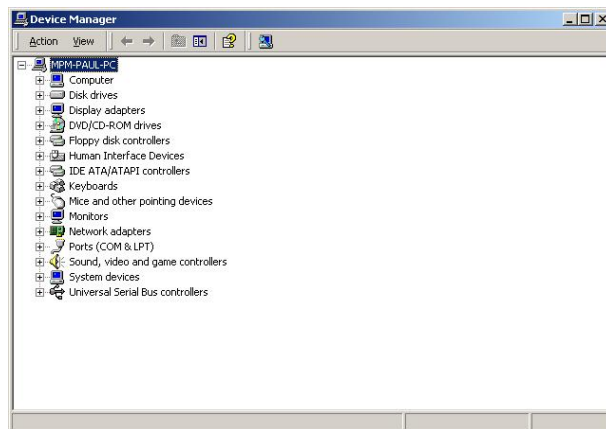

Figure 7-18: Device Manager List
Step 33: A list of system hardware devices appears (Figure 7-18).